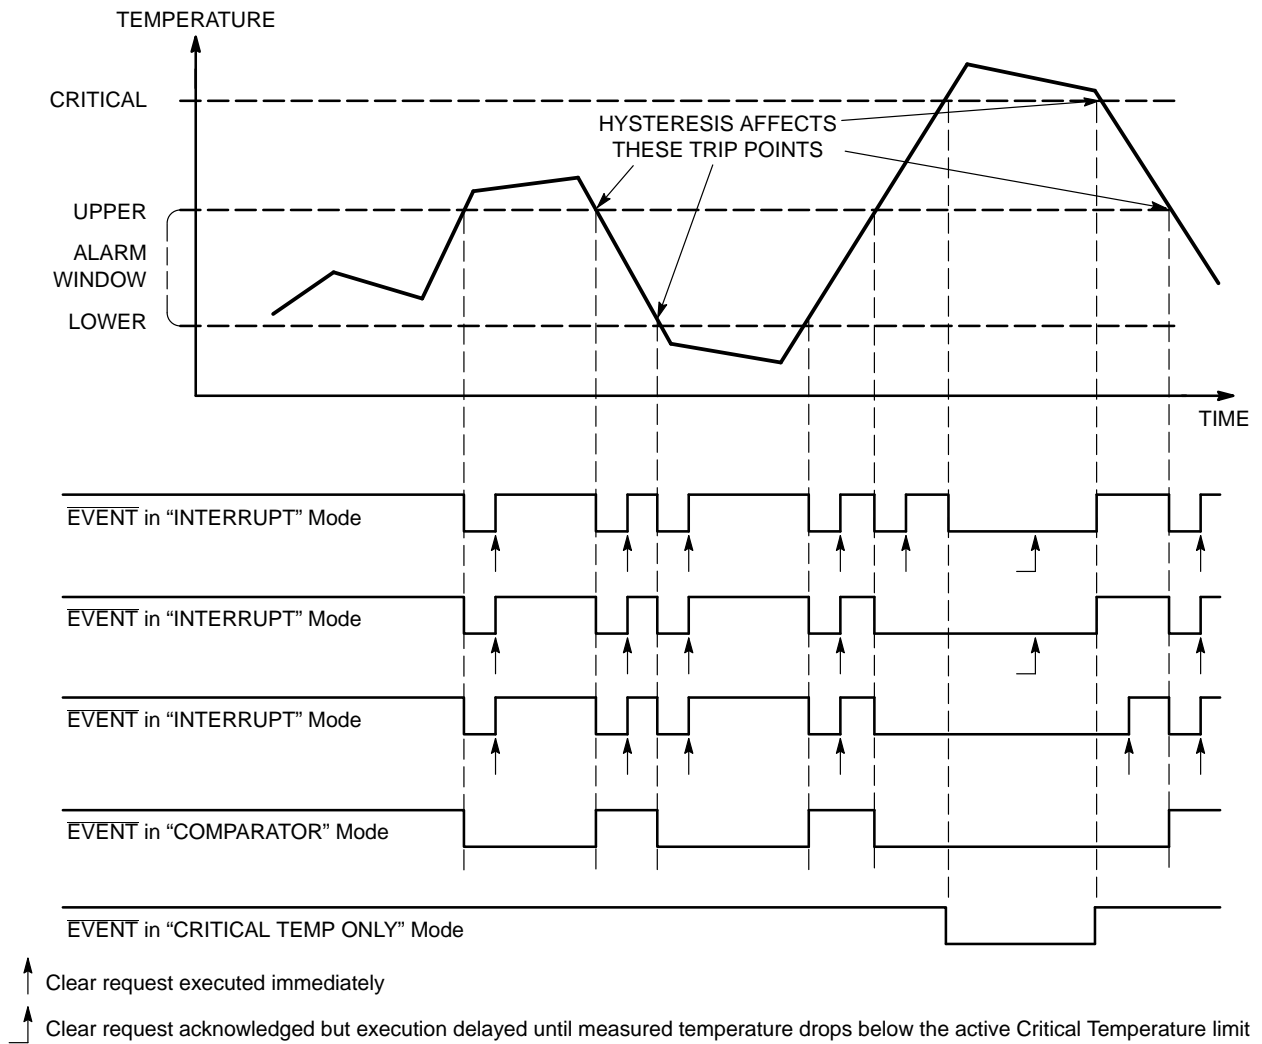

Figure 33. Event Detail
16. Writing a '1' to this bit clears an event condition in Interrupt mode, but has no effect in comparator mode. When read, this bit always returns 0. Once the measured temperature exceeds the critical limit, setting this bit has no effect (see Figure 33).
The  $\overline{\text{EVENT}}$  output reacts to temperature changes as illustrated in Figure 33, and according to the operating mode defined by the Configuration register.